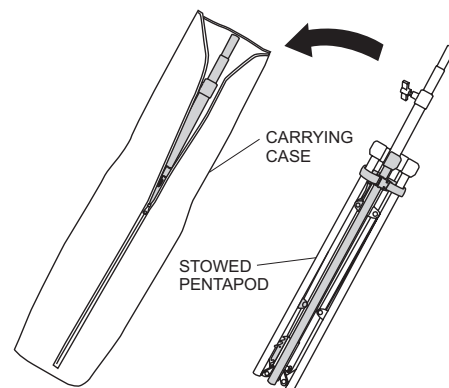

Figure 34. Storing in Carrying Case
- Place the stowed pentapod inside the carrying case. See Figure 34.